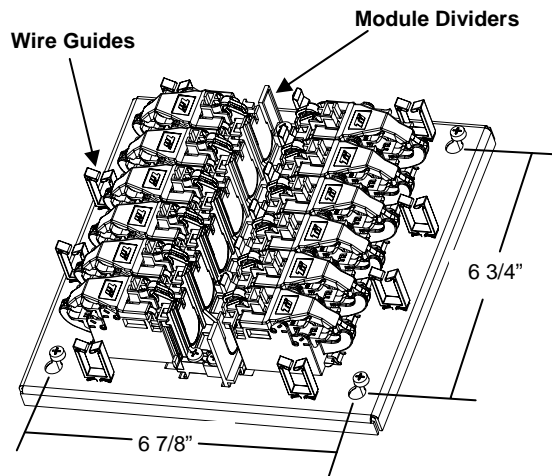

Figure 3
6. Mount the 712 mounting plate with #10 sheet metal screws of the appropriate length. The mounting center dimensions are 6 3/4 x 6 7/8 (See Figure 3).
4. Prior to connecting POTS and Data Lines confirm Central Office (CO-IN) connection at the test ports using test clips and appropriate test equipment (See Figure 3).
6. Dress wires through wire guides and use cable ties as needed (See Figure 3).